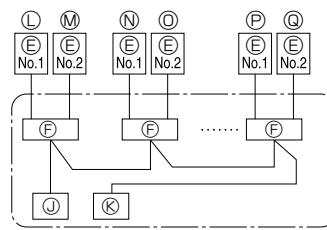

Fig. 6-2
### 6.1. Outdoor unit (Fig. 6-1, Fig. 6-2)
- (1) Remove the service panel.
- (2) Wire the cables referring to the Fig. 6-1 and the Fig. 6-2.